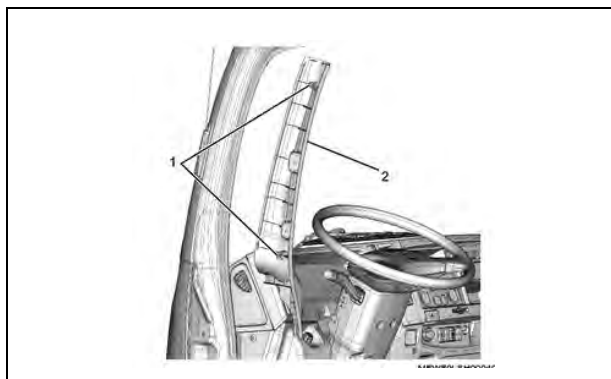

Figure 39
38. Install the front pillar trim cover and reinstall the front door weatherstrip. (See Figure 39.)